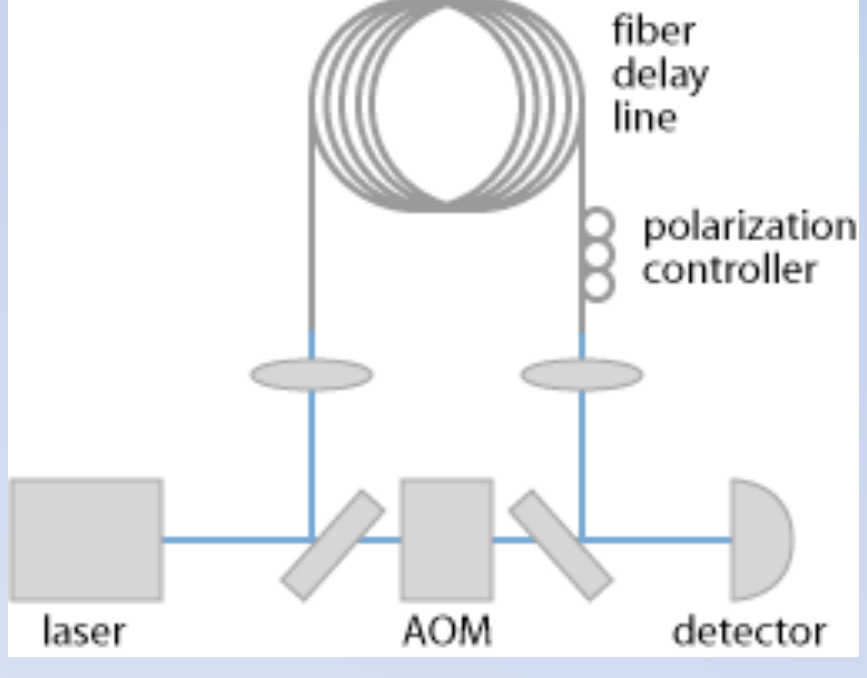

Figure 7: Setup for self-heterodyne test, which is used to verify laser linewidth.
- Delayed Self-Heterodyne Method:** The generation of a beatnote between a laser beam and a delayed version of itself in order to measure the short-term laser linewidth, as in Figure 7.
Figure 7: A second look at the above results, this time confirming that the power jump above is indeed a mode hop, as indicated by the jump in PZT voltage at the same temperatures. The PZT Voltage jumps because it's trying to maintain a constant laser frequency.